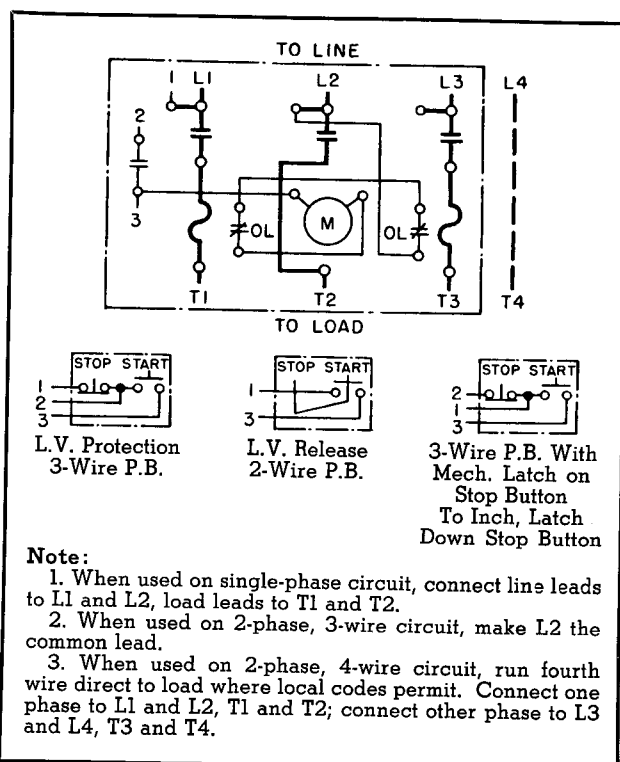

FIG. 2. Wiring Diagram
**TYPE N, LIFE-LINESTARTER** will give protection against overloads (but not against short-circuit currents) when wired in accordance with Fig. 2 and provided with overload heaters selected from the Heater Application Tables.
If it is desired to operate the coil from a separate control circuit, disconnect control lead at "L2" and at lower right O.L. relay terminal (Fig. 2) and remove. Connect one side of separate control circuit to relay terminal where lead was removed and the other side to isolated insert terminal (8-32 thread) at upper left corner of molded base. To this point connect terminal "1" of P.B. station or master switch; in other respects connect per Fig. 2.